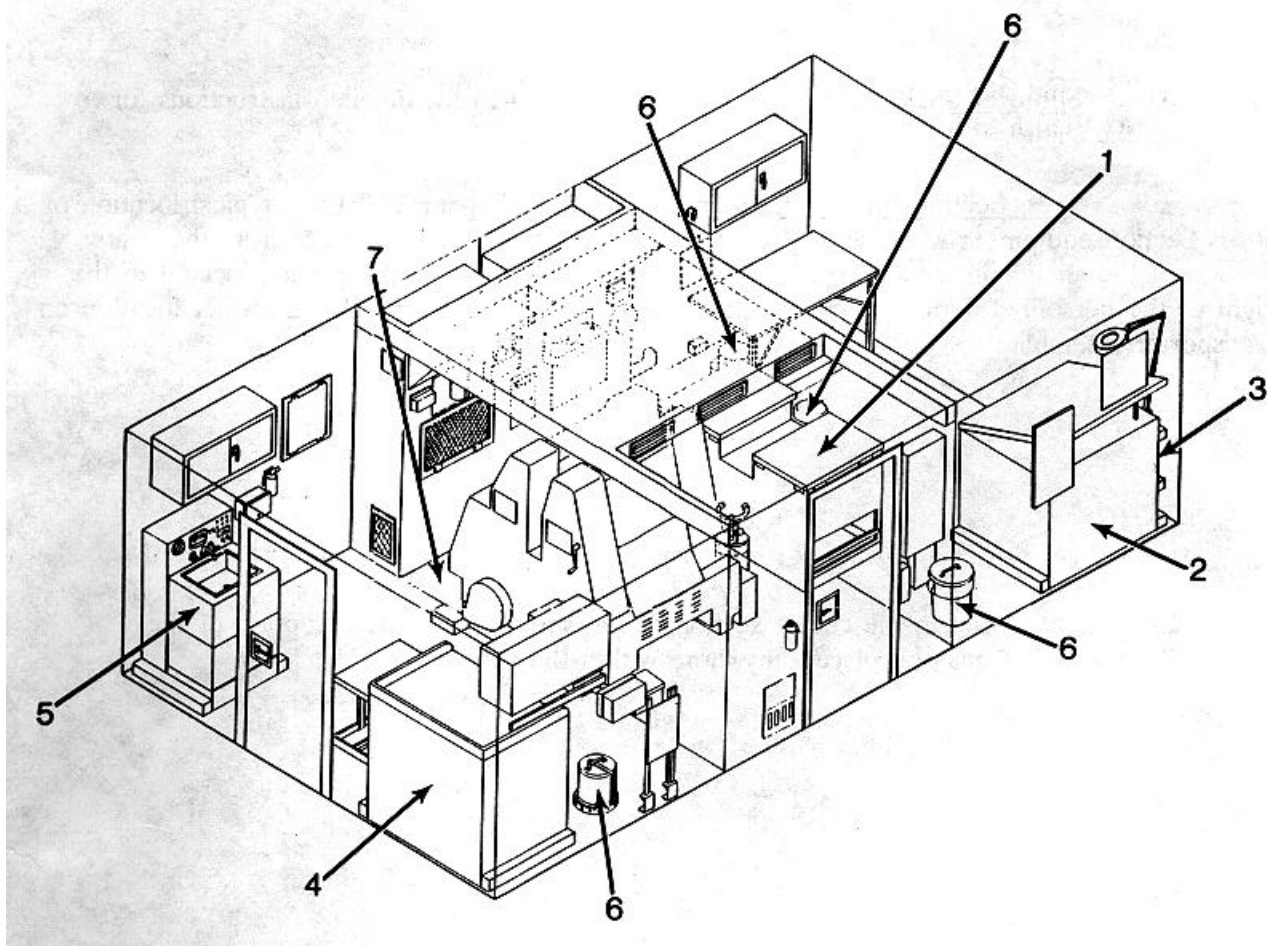

Figure 2-13. Operating Location of Press Section Equipment
c. Press Section Interior Equipment. Refer to Figure 2-13 for a typical location of Press Section equipment when setup for operation. Remove the equipment from the center section of the shelter in the order listed below using T-handle retainer wrench located to the right of the personnel door to remove retainer bolts. Store retainer bolts in proper location on transporter assemblies.